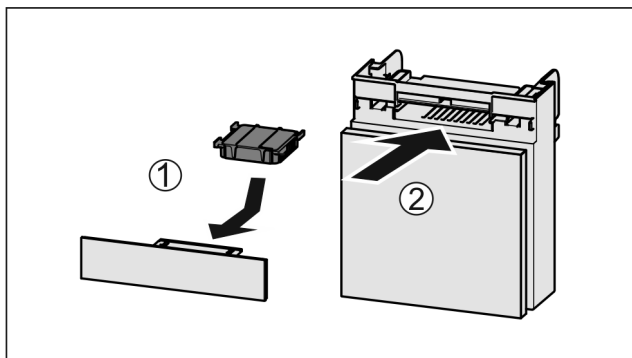

Fig. 157
- ▶ Insert the carbon filter as shown in the diagram Fig. 157 (1).
- ▶ Push the compartment in Fig. 157 (2).